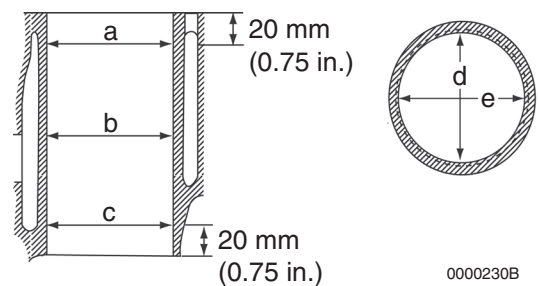

Figure 6-63
- Take measurements at three places (Figure 6-63) (a, b, and c), and in two directions (d and e) in each cylinder. Collect and record the measurements. See *Cylinder Block* on page 6-13 for specifications.